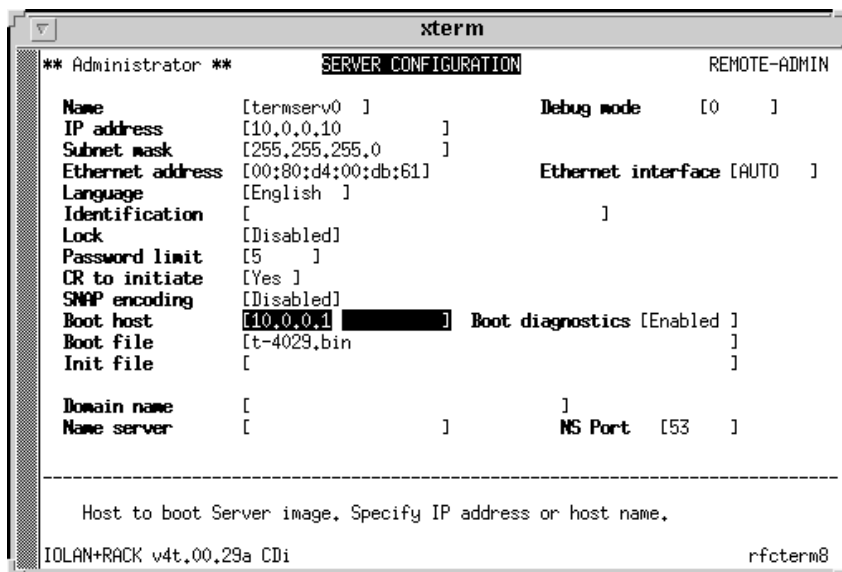

Figure B-3: Server Configuration Menu
8. Select **server** and press <Return>. The Server Configuration Menu displays (see Figure B-3).